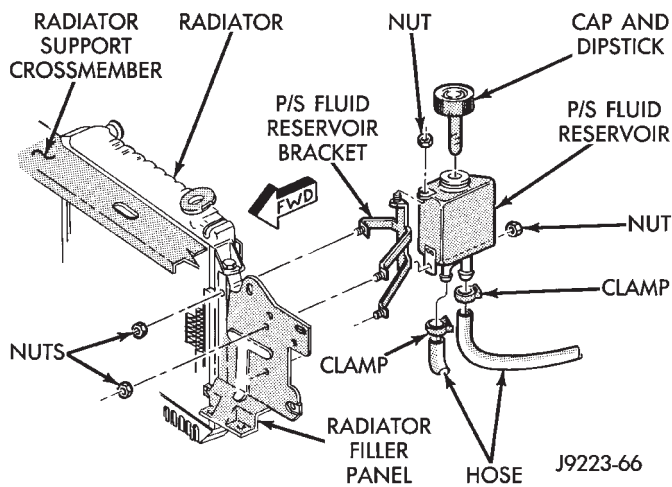

Fig. 9 P/S Pump Reservoir Removal/Installation
- (2) For 2.5L engines, remove the power steering pump reservoir from the left filler panel (Fig. 9).
(3) For 2.5L engines, install the power steering pump reservoir on the left filler panel (Fig. 9).